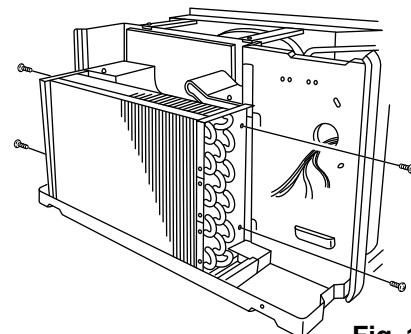

Fig. 13
(2) Remove the screws holding the evaporator. (Fig. 13)